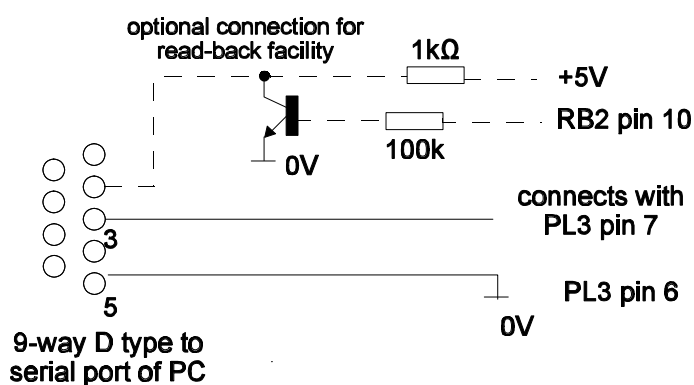

Figure 2 Programming adaptor
The software supplied with the SR500 receiver is the SR500PRG.exe program. The software can be run on a PC with the serial port connected to PL3 of the SR500 receiver via a suitable adaptor as shown in Figure 2. If the read-back function is desired, then PL3 pin 10 of the receiver must be connected to pin 2 of the PC serial port via a buffer circuit. A 1k pull-up resistor to +5V must also be provided as shown.
3. Function F5 is only enabled when a read-back programming adaptor is used, (refer to Figure 2). This function displays the current frequency table of the connected SR500 receiver.